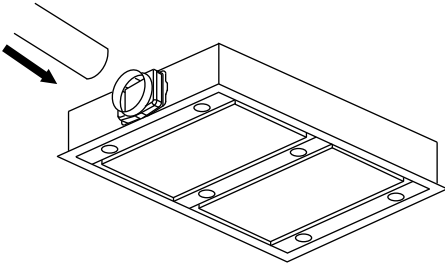

Fig 12
2. Mount the flexible or rigid ducting onto the plastic connector of the hood (**Fig 12**).